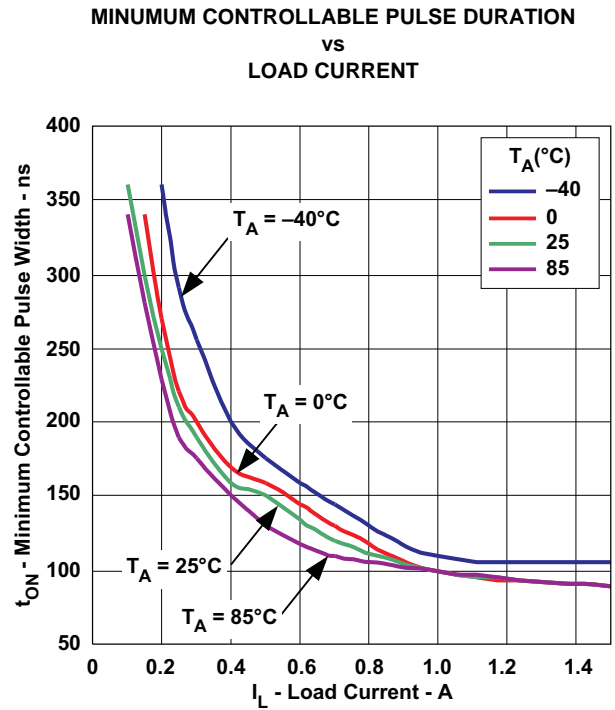

Figure 14.
(3) Ensured by design. Not production tested.
(4) See Figure 14 for I_{SWx} peak current < 1 A.